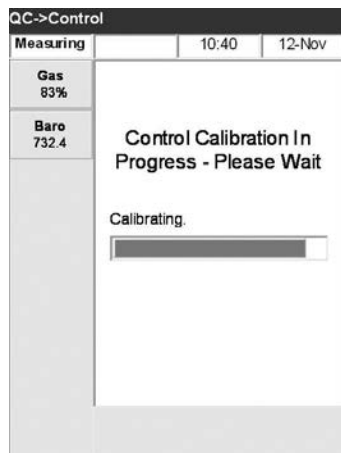

Fig. 4-21 Control Calibration
11. The system starts to calibrate (Fig. 4-21).